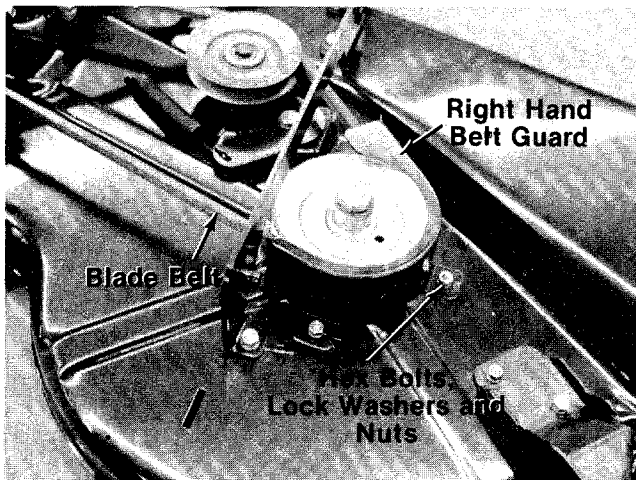

FIGURE 35
3. Remove the right hand belt guard from deck. Remove two hex bolts, lock washers and hex nuts. See figure 35.